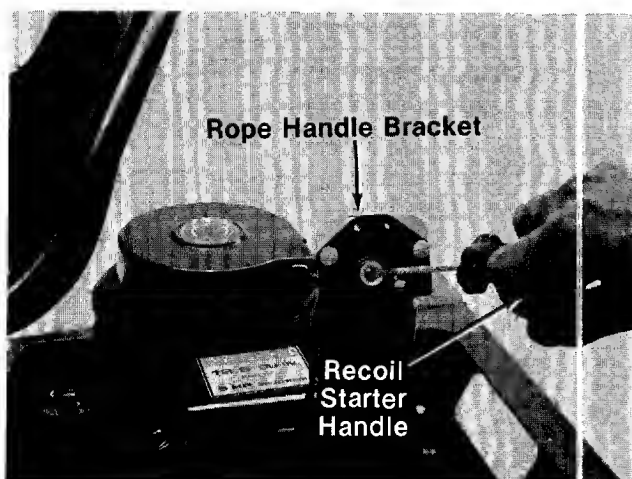

FIGURE 16.
The recoil starter handle is located on the left rear side of rider. The recoil starter handle can be pulled while standing by the left rear side of unit. The ignition key must be on before the engine will start. After the engine starts, the recoil starter handle must be returned and locked into the rope handle bracket before the blade or clutch is engaged. The engine will stop if these instructions are not followed. See figures 16 and 17.
6. Turn the ignition key to the "ON" position. Twist the recoil starter handle until it is free and pull it with a quick steady motion. After the engine starts, return the recoil starter handle and twist it until it locks. See figure 16.